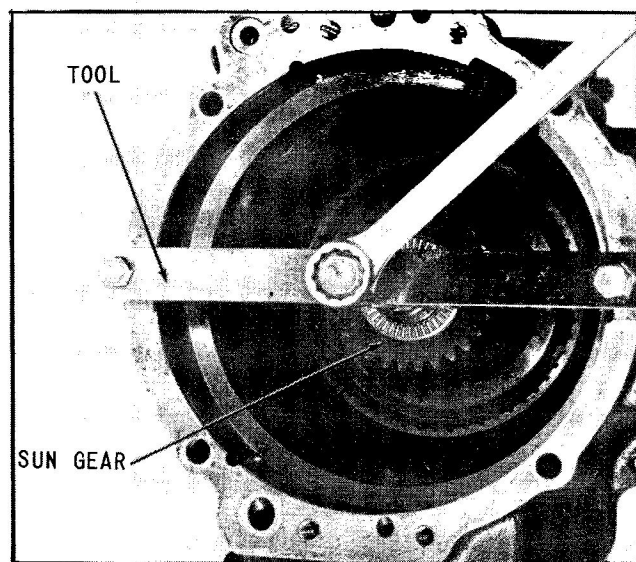

Fig. 24 Press Against Sun Gear Shaft
1. Use an arbor press or a tool similar to the tool shown in (Fig. 24) to press against the end of sun gear and output shaft, while completing steps 2 through 5 inclusive.
2. Use an arbor press or a tool similar to tool shown in (Fig. 24), to press